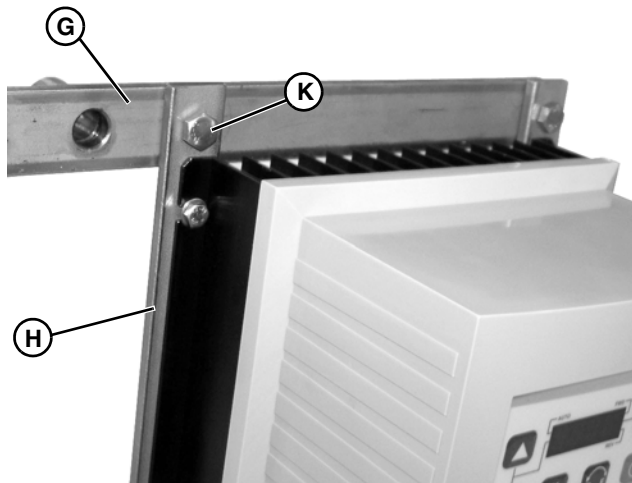

Figure 8
2. Attach controller mounting bars (Figure 8, item H) to conveyor mounting bar (Figure 8, item G) with M6x16 mm screws (Figure 8, item K).